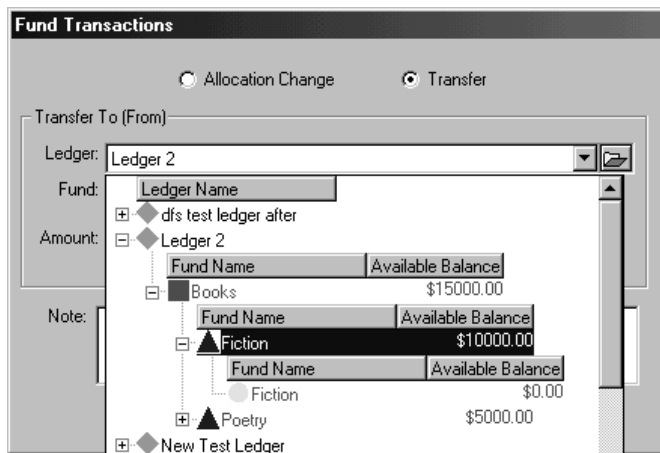

Figure 5-28. Ledger/Fund hierarchy displayed in the Ledger field
- If you want to select a fund from a ledger/fund hierarchy rather than typing the fund code into the **Fund** field, click the **folder** button beside the **Ledger** field. This displays a hierarchy of available ledgers and funds (see Figure 5-28). To aid you in selecting an appropriate fund, each fund's available balance displays within the hierarchy.